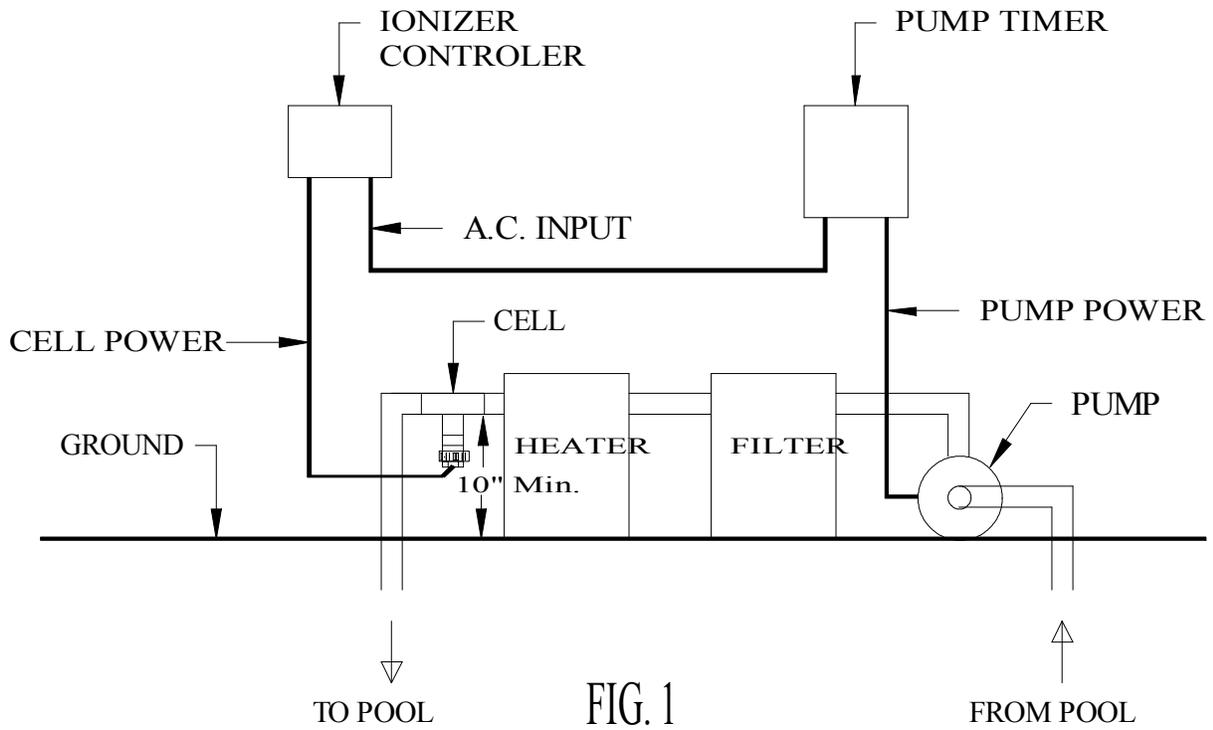
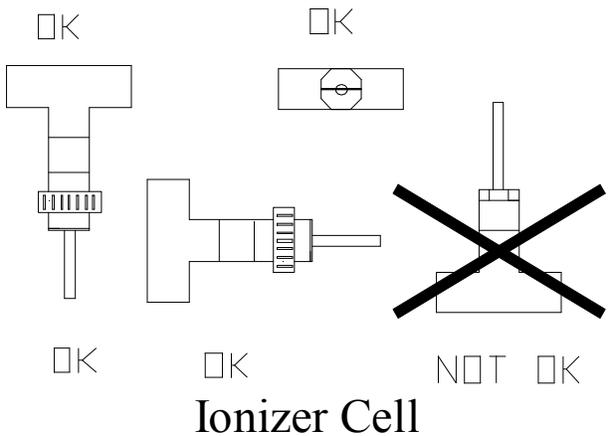
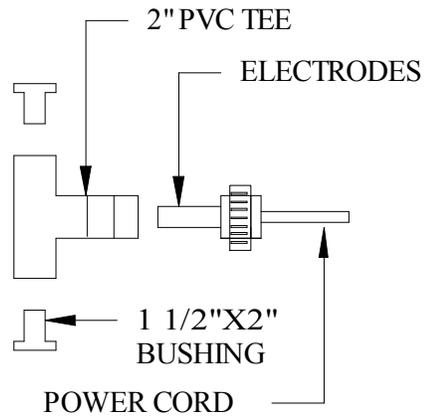

FIG. 1
FIG. 2
FIG. 3
3. Install the 2" tee after the filter. If this is not possible then before the filter is OK. See FIG. 1. The electrode cell must be at the bottom or side so that no air will be trapped in the cell. Make sure there is clearance to remove the electrodes before installing tee. See FIG. 2. Cut a 2 3/4" section of pipe out where the electrode cell will be installed if your existing pipe is 2" PVC. Cut a 3 1/2" section out if your existing pipe is 1 1/2" PVC. Glue the 1 1/2" x 2" bushings into the 2" tee using PVC glue if your existing pipe is 1 1/2". Do not use the bushings if your existing pipe is 2" PVC. If you ordered your system for 2" plumbing you will not have the reducing bushings. Glue the tee in place using PVC glue making sure it is installed so no air will be trapped in the cell. See FIG. 3. If you are not sure how to install the cell you should have a swimming pool contractor do it for you.
4. Mount the controller on a wall or vertical surface where the cord will reach the cell. See FIG. 1. It is best to install the controller where it is protected from the sun and weather. Fasten the controller to a vertical surface with the 4 #6 x 3/4" screws provided. Do not mount any other way. The cords must be located at the bottom of the controller and not at the top or side.